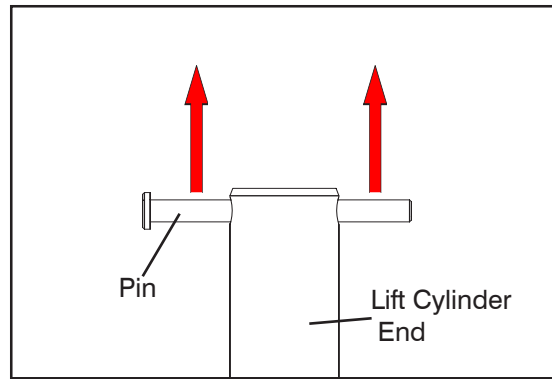

Figure 5-22. Cylinder Lifting Procedure
- Insert a suitable pin at the lift cylinder end. See Figure 5-22.